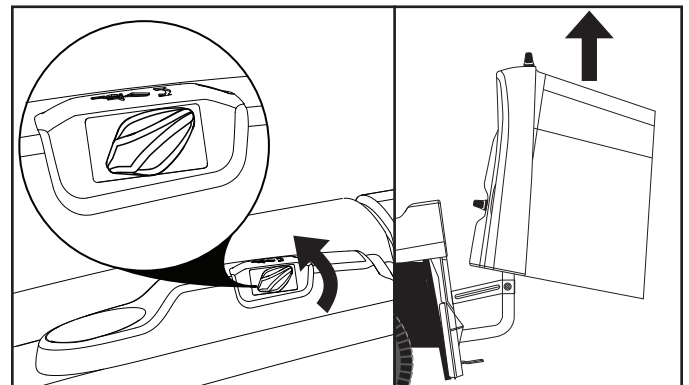

Fig. X1
TO OPERATE ELECTRIC DUMP SYSTEM (See Fig. X1 and X2)
- To lift the bagger, turn the electric dump switch counter clockwise. See Fig. X1.